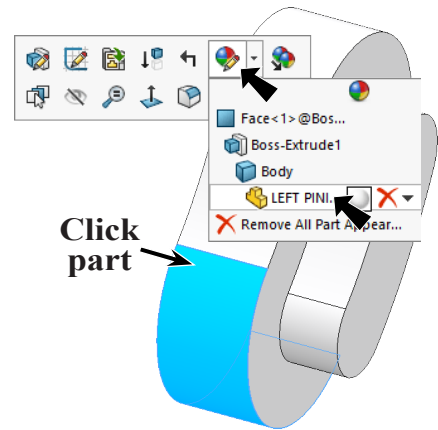

Fig. 17
Step 1. Click part, click **Appearance Callout**  on the context toolbar and click **LEFT PINI...** , Fig. 17.